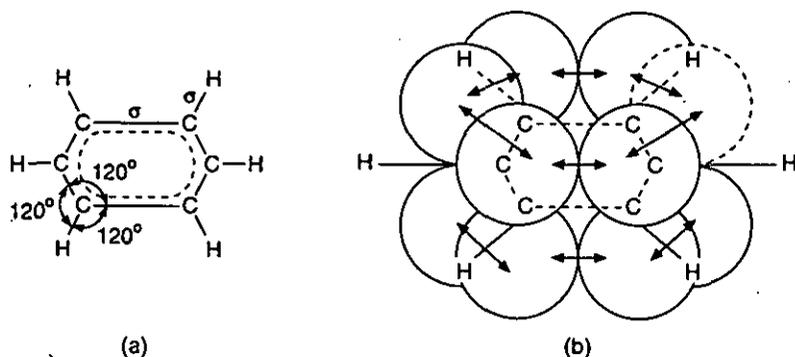

Fig. 1
A carbon atom, through trigonal or sp^2 hybridisation can form three covalent bonds lying in one plane and having a bond angle of 120° . On arranging the six carbon atoms and six hydrogen atoms of benzene, there is maximum overlapping of these orbitals, as shown in fig. 1(a). Each bond orbital is cylindrically symmetrical about the line joining
These p -orbitals of each carbon atom overlap sideways to the similar p -orbitals of two C-atoms to which it is bonded. Thus, the six electrons are paired to give additional π -bonds [Fig. 1(b)]. Due to this, we have two continuous hexagonal electron clouds, one lying above and the other below the plane of the atoms as shown in figure (2).